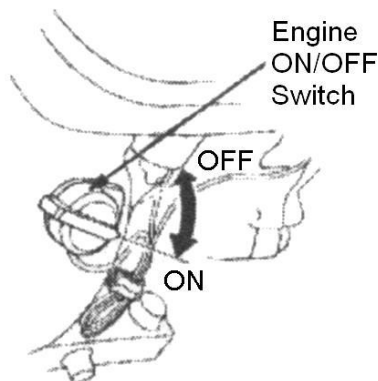

Figure 10. Engine ON/OFF Switch
2. Place the engine ON/OFF switch (Figure 10) in the “ON” position.